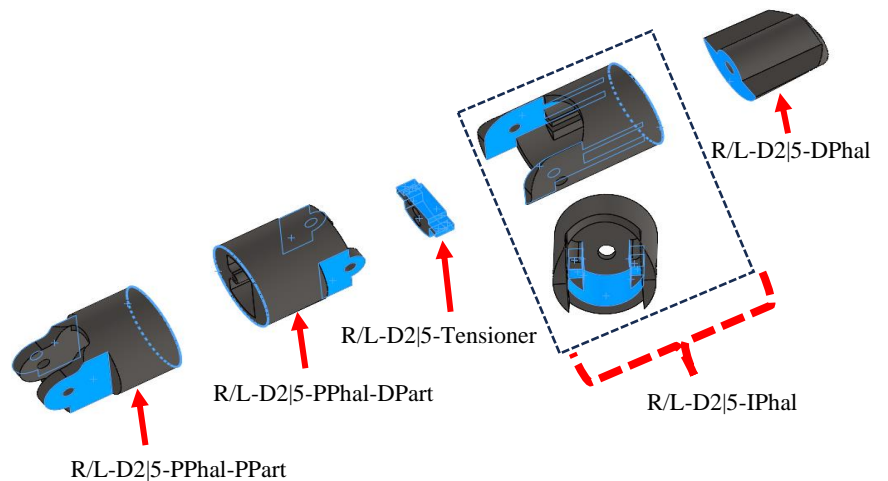

Figure 2: Sanding locations for D2|5
- Sand all faces as shown in **Figure 2** above. Ensure minimal interference as to allow free sliding as at the joint connection of *R/L-D2|5-PPhal-DPart* and *R/L-D2|5-IPhal*.